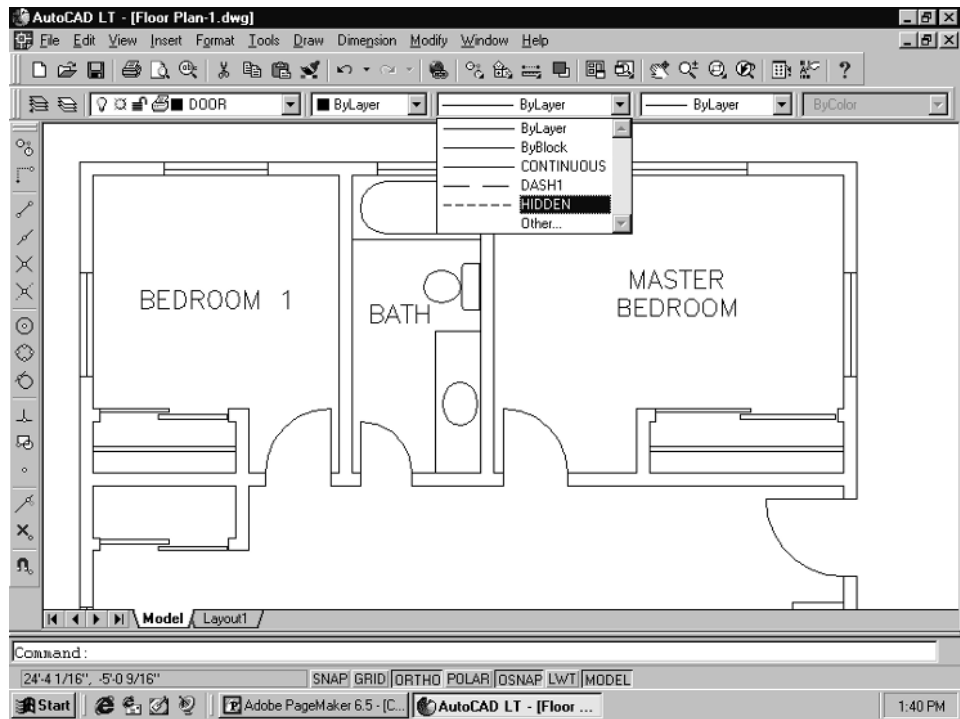

Figure 2-103
2. The last step is to change the rod from a continuous line to a dashed line. To do this, you need to change the Linetype property of these lines. (There are different ways of modifying these settings, depending on the version of AutoCAD LT you are using. For this particular job, though, the methods between versions are the same.) First, select the clothes rods with your cursor. The “grips” should be visible on the items you select. Also, the lines should “highlight,” becoming sort of “dotted.” Next, select the Linetype Control box on the Object Properties toolbar, shown in Figure 2-103. Pick **HIDDEN** and then hit **Esc** twice to clear the grips.